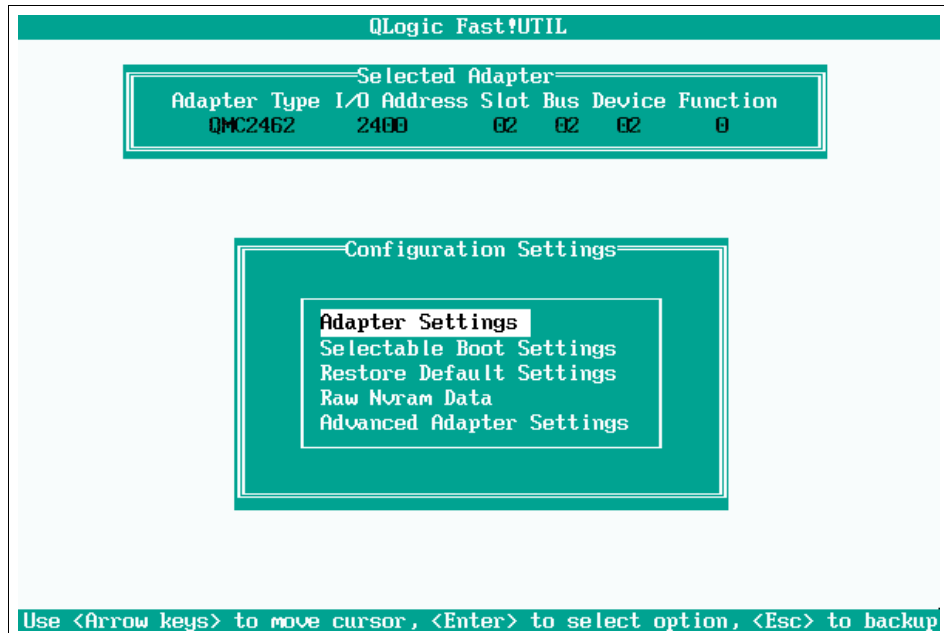

Figure 9-4 Adapter Settings window
2. Select **Configuration Settings**. You will see a window similar to Figure 9-4.